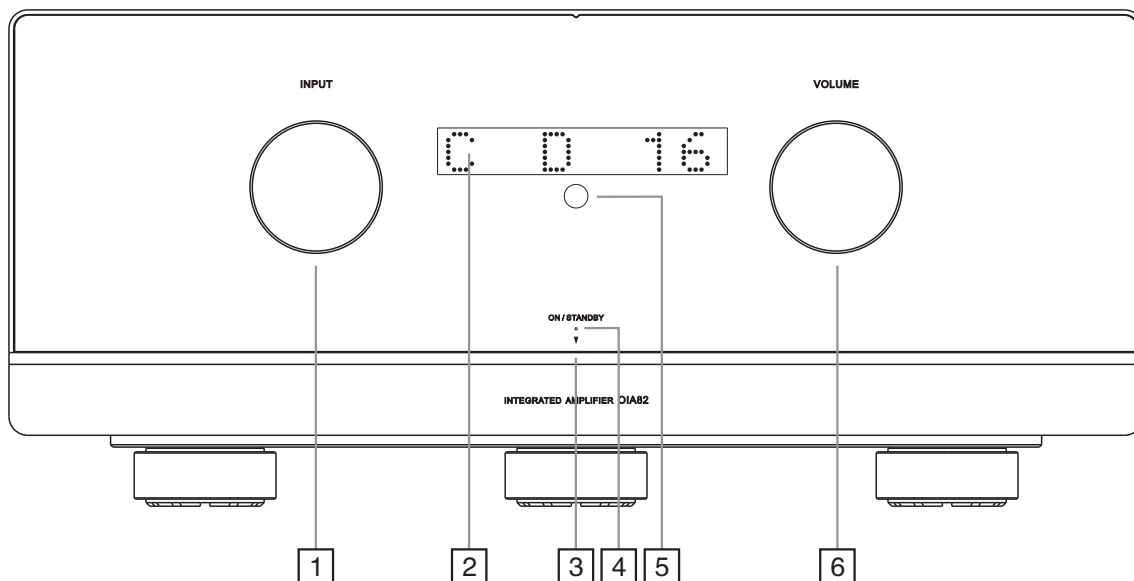

Fig.1
9. This device is intended for safe use in an area with elevation under 2000m. (Fig.1)